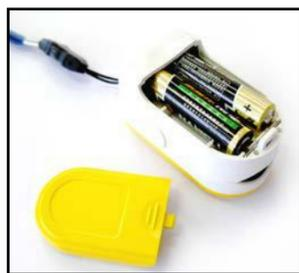

Figure 3. Battery Installation
Step 1. Insert the two AAA batteries in the right direction (refer to Figure 3.)